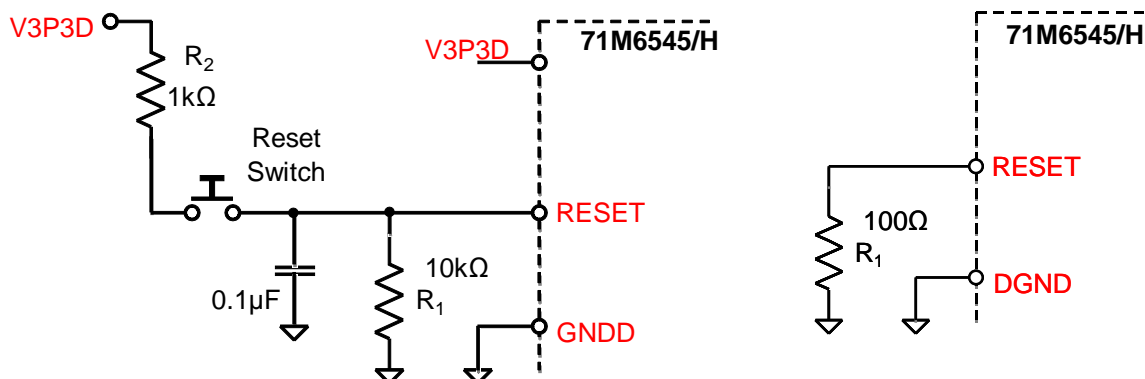

Figure 31: External Components for the RESET Pin: Push-Button (Left), Production Circuit (Right)
Even though a functional meter does not necessarily need a reset switch, it is useful to have a reset pushbutton for prototyping as shown in Figure 31, left side. The RESET signal may be sourced from V3P3SYS.
- ✓ For a production meter, the RESET pin should be protected by the external components shown in Figure 31, right side. R1 should be in the range of 100Ω and mounted as closely as possible to the IC. Since the 71M6545/H generates its own power-on reset, a reset button or circuitry, as shown in Figure 31, is only required for test units and prototypes.